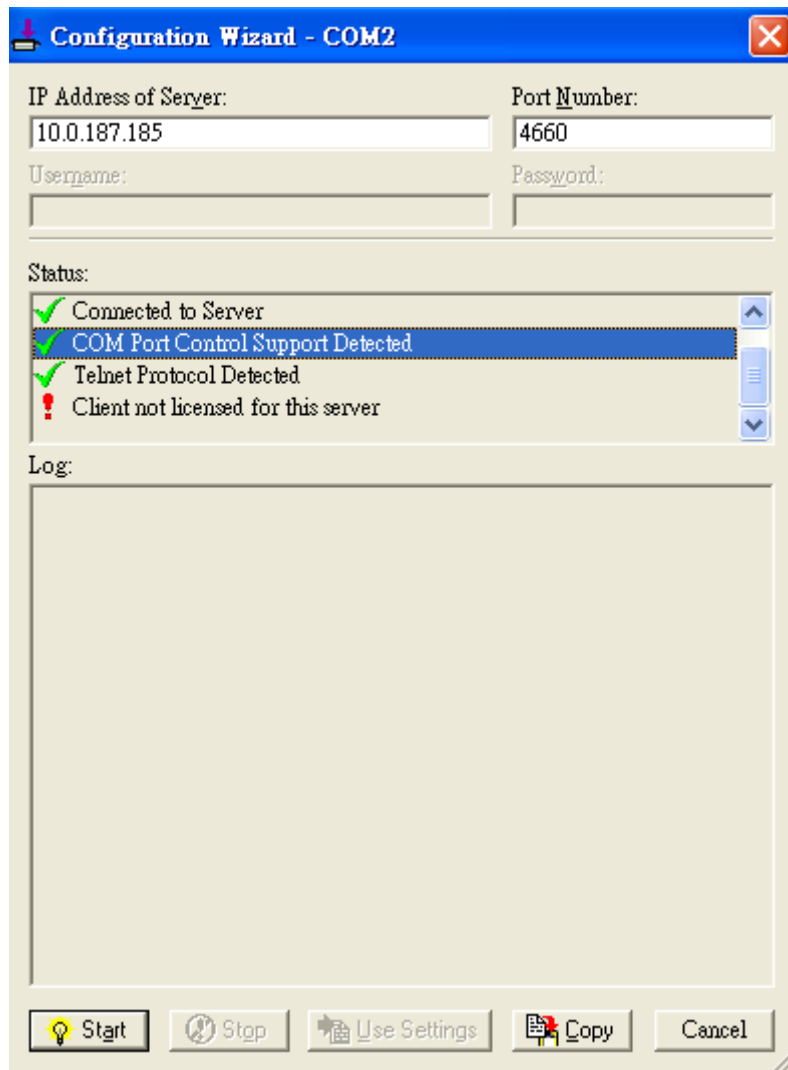

Figure 4.12 Virtual COM License Exception
- c. If there is a check with **Telnet Protocol Detected** and an exclamation mark with **Client not licensed for this server** (Figure 4.12), this means that there is a licensing issue between the serial device server and Serial/IP. Please contact Atop technical support to obtain the correct Virtual COM software.